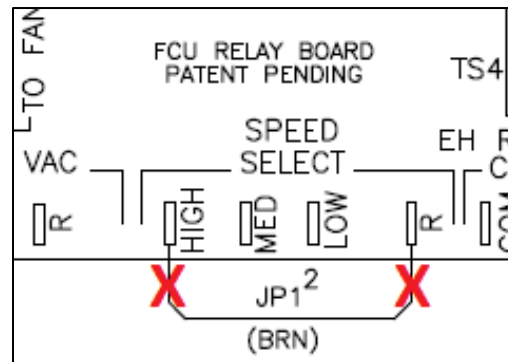

Figure 8 – Removing speed select jumper on unit WITH NO 3-speed switch
- a. If unit has no 3-speed switch (see Figure 8):